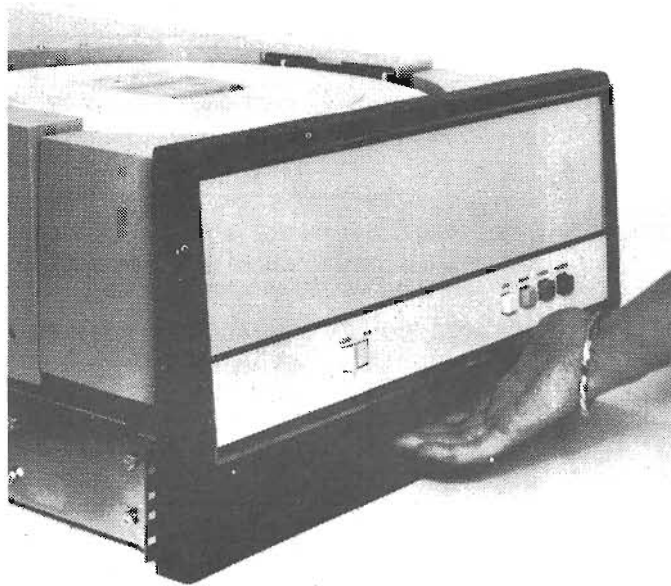

Figure 2-7. OPENING THE EQUIPMENT DRAWER
1. If rack mounted, open the equipment drawer by pulling out on the door handle as shown in Figure 2-7.
2. For rack mounted drives, open the equipment drawer (Figure 2-7), and slide the drive out to its first stop.